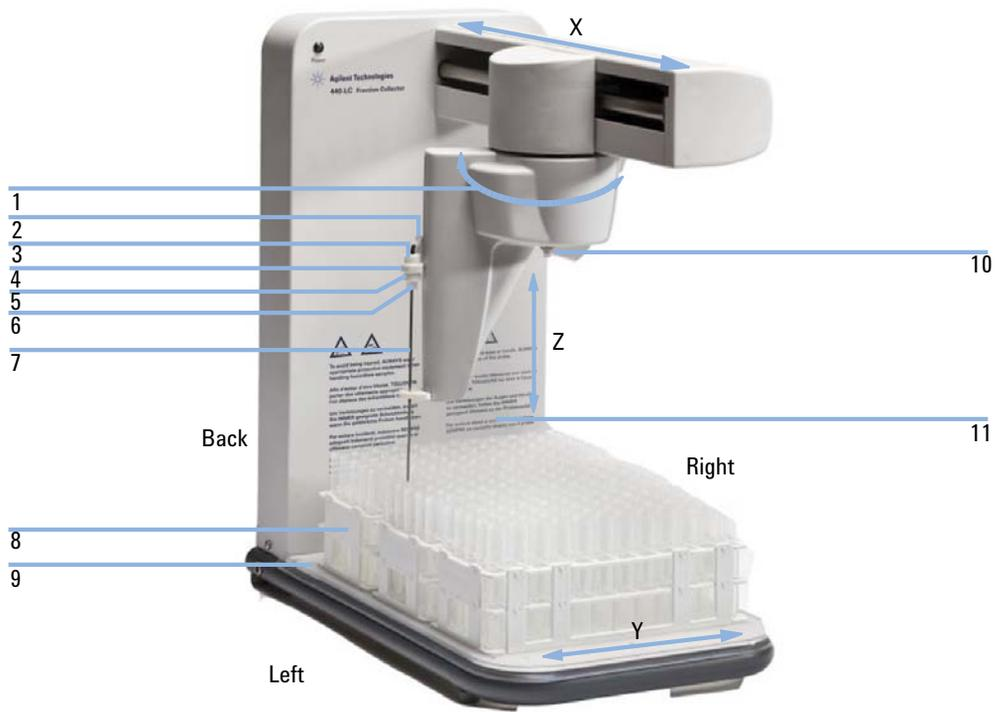

Figure 20 Fraction collector components
- 5 Insert the probe into the probe mounting block (see Figure 20 on page 95).